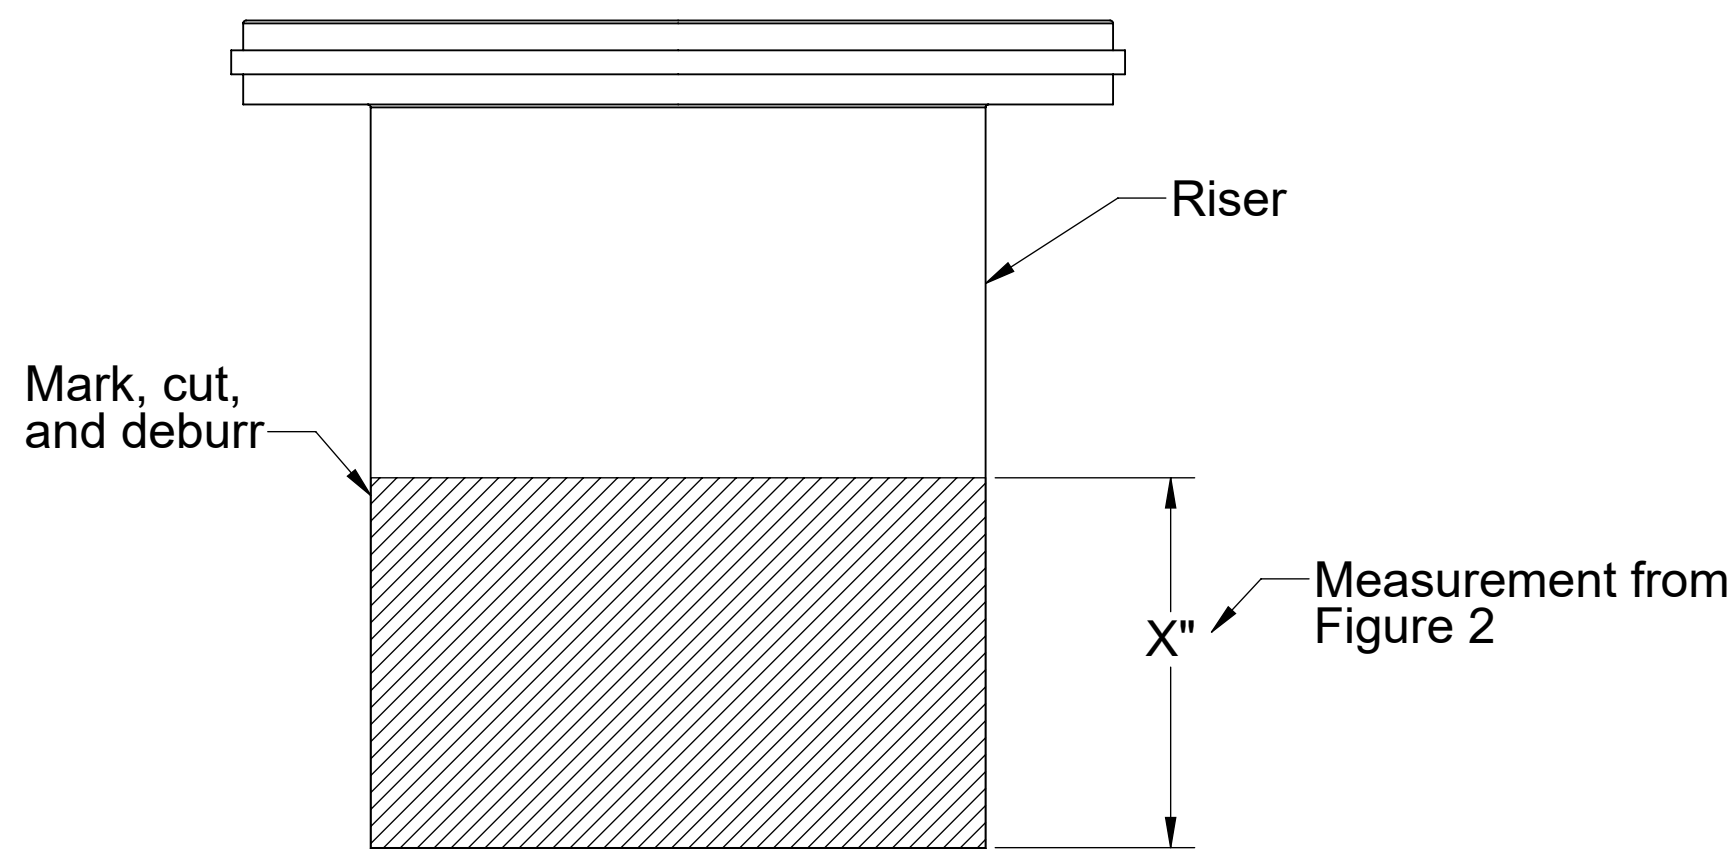

Figure 3
7. Whether the riser needs to be cut or not, make another mark with the silver marker on the sidewall of the riser a distance of 4 INCHES (3 INCHES for a OS-35 w/ 4" connections) above the edge just cut. If you did not make a cut (meaning your riser height + dimension from step 5 line was beyond the bottom edge of your riser), still mark the sidewall of the riser 4 INCHES above where your riser height + dimension from step 5 line would have been. DO NOT cut this new line. Once the riser is installed into the main unit, this new line will end up at the top of the gasket and will aid in re-assembly. See Figure 3.
- Remove riser from ring. Take measurement from step 5 from the BOTTOM of the riser upwards towards the top of the riser. Mark a line around the riser, and cut with handsaw, jig saw, or reciprocating saw. Remove debris from cut edge with scraper, utility knife, or gloves. See Figure 3.